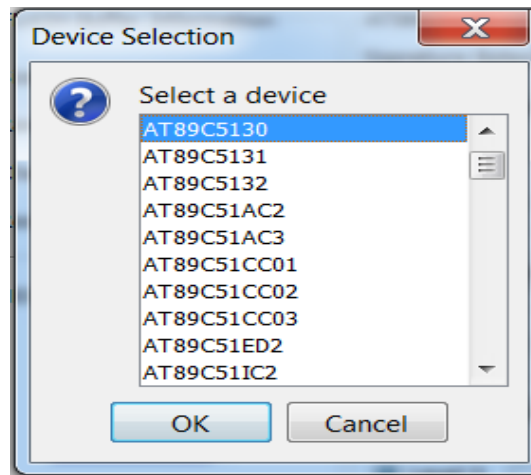

Figure 10.2: Device Selection
2. From the Device Menu, choose "Select" and select the device (AT89C5130) that is connected to the evaluation board, Figure 10.2.